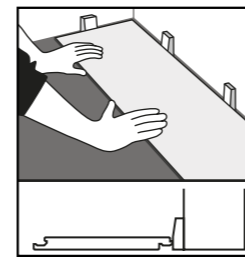

Fig. 1
1. First check the width of the room and calculate how many full rows will fit; the remaining space should be halved to indicate the width of the first and last row of planks. If the space is calculated to be less than 150 mm (6"), the number of full rows should be reduced by one and the width of the cut planks in the first and last rows is increased accordingly. Install the plank with the tongue side/cut edge facing the wall, fit 5 mm (0.2") spacers between the plank and wall (Fig. 1).